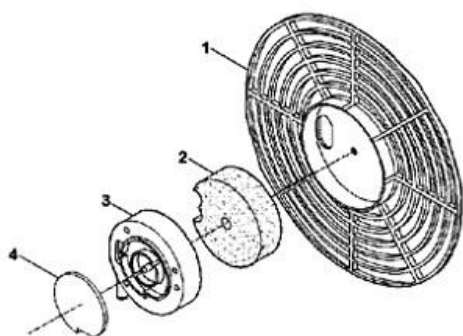

Fig. 8
Every 500 hours: Inspect air filters. Remove filter end cover (1), wash air intake filter (2) using a light detergent and dry it thoroughly before reinstalling. Remove plate (3) and replace air outlet filter (4) (Fig. 8).